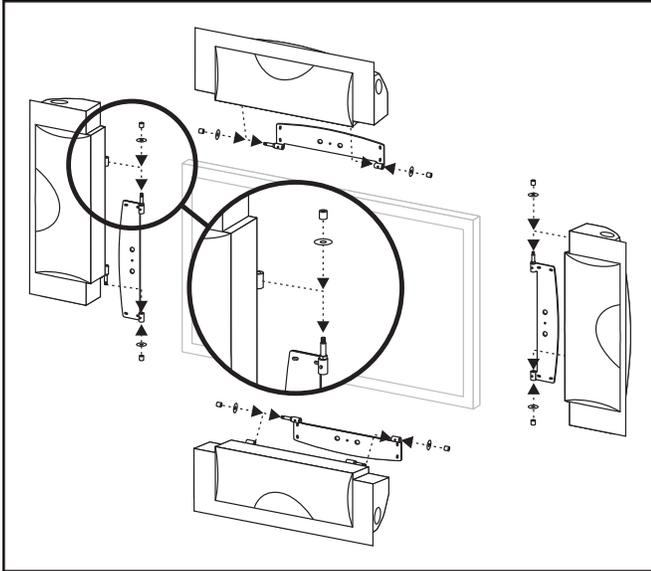

Figure 23. Install the Fresco i and the washers and cap nuts.
- 9 Place the Fresco i onto the wall bracket and carefully slide the Fresco i into place (see figure 23).
- 10 Using a 6mm Allen tool, attach a washer and cap nut onto each pin. Do not fully tighten the cap nuts (see figure 23).